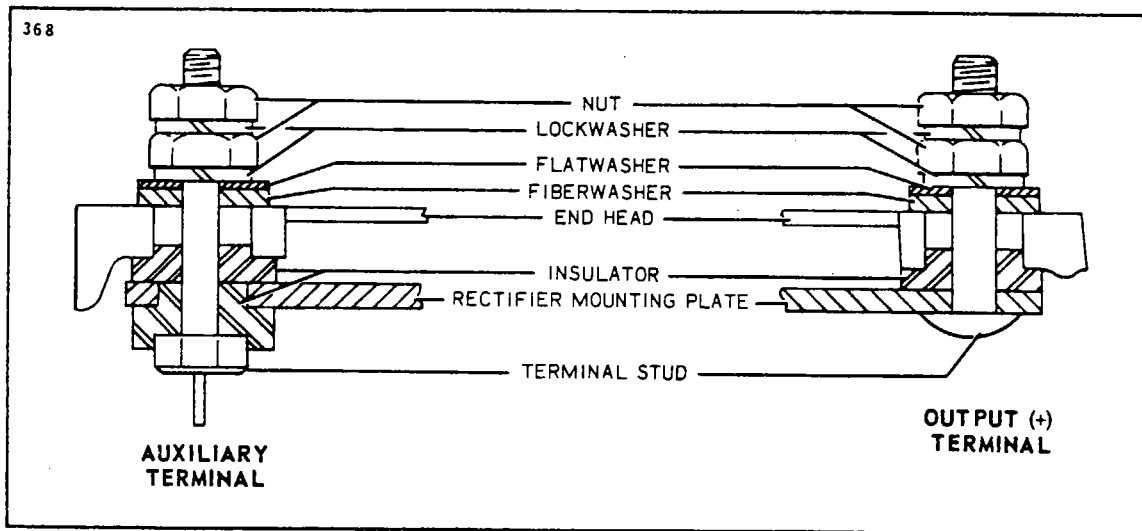

Figure 11-26. Terminal Assembly (Prestolite)
c. Reassemble the rectifier mounting plate studs and insulators, making sure they are in the correct order. (Refer to Figure 11-26.)